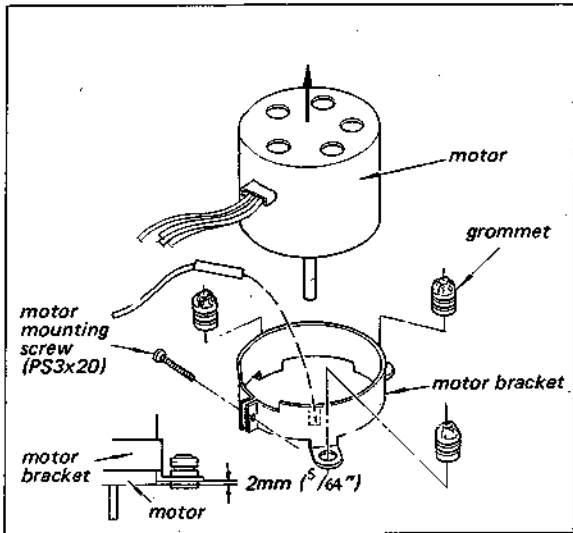

Fig. 2-10. Motor installation
6. Remove the motor in the arrow direction in Fig. 2-10 by loosening the motor mounting screw.
8. Adjust the height of the motor by moving the motor up and down so that the top of motor is 2mm (3/64") lower than the bottom part of motor bracket as shown in Fig. 2-10.